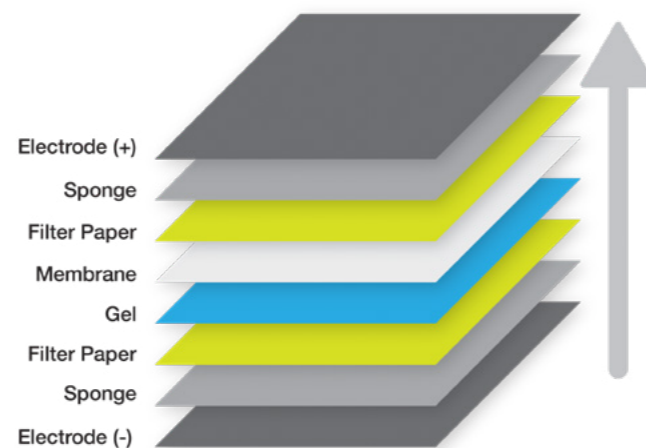

Figure 1 Scheme of transfer sandwich assembly.
- Assemble the transfer sandwich according to scheme presented in Figure 1.